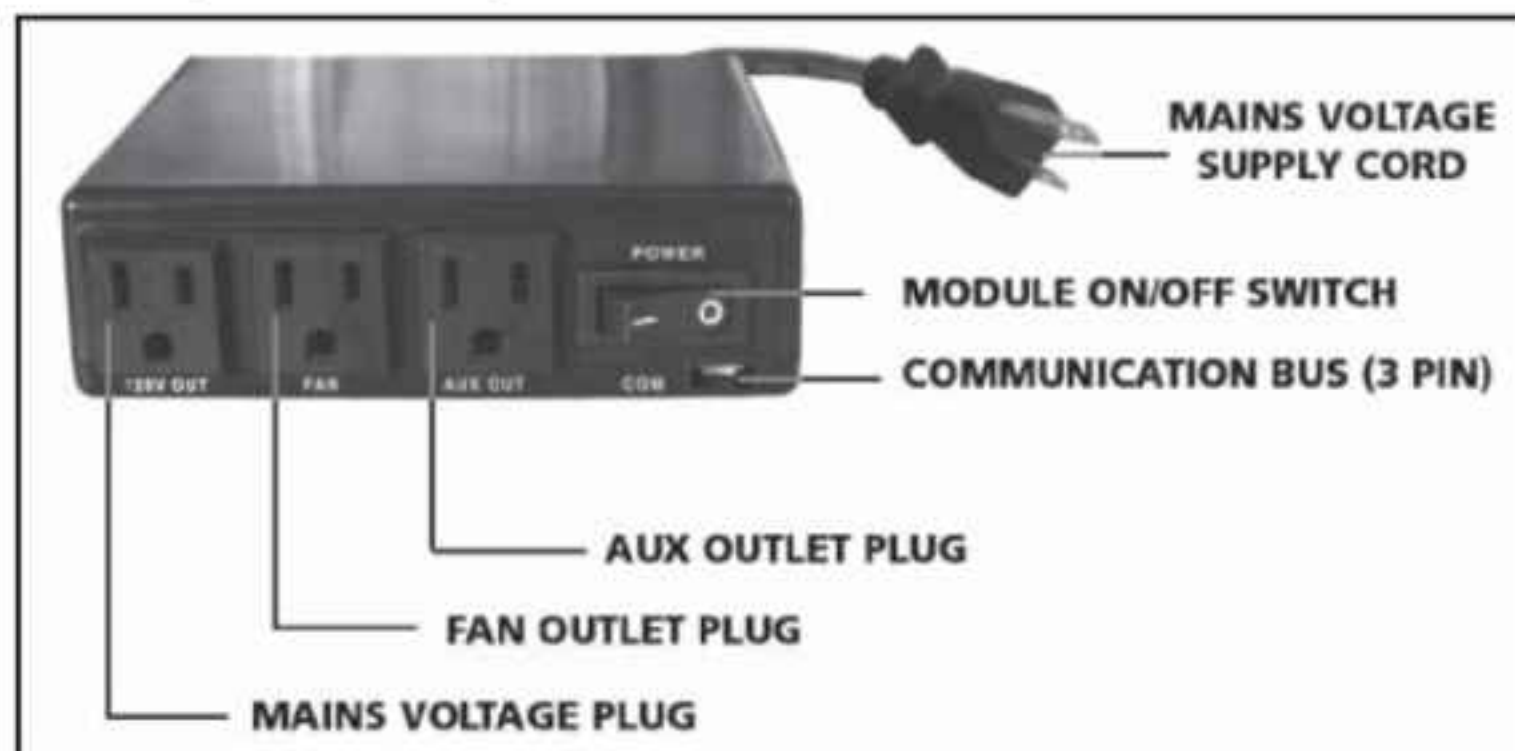

Figure 106: Proflame Fan Control Module.
Fan Control Module (FCM) offers the added ability to control the fan speed through six (6) speeds, a remotely actuated 120V outlet and a constantly powered 120V outlet. The FCM provides DC power to the Receiver allowing the batteries to be used only when line power is interrupted or lost (see Figure 106).
The Smart Thermostat function adjusts the flame height in accordance to the difference between the set point temperature and the actual room temperatures. As the room temperature gets closer to the set point the Smart Function will modulate the flame down. To activate this function, press the Thermostat Key (until the word "SMART" appears to the right of the temperature bulb graphic (Figure 106). To adjust the set temperature, press the Up or Down Arrow Keys until the desired set temperature is displayed on the LCD screen of the Transmitter.